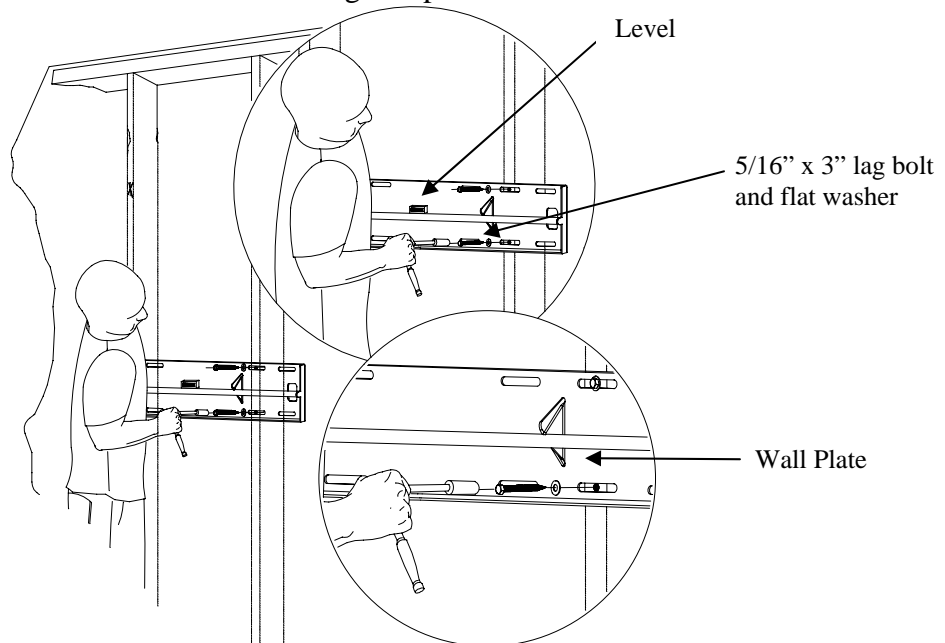

Figure 11. Securing the Wall Plate
2. Secure the plate using four (4) $\frac{5}{16}$ " lag bolts and flat washers (Figure 11).